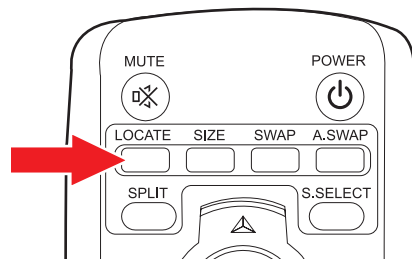

Figure 34. PIP Location
1. Press the LOCATE button (refer to Figure 34).